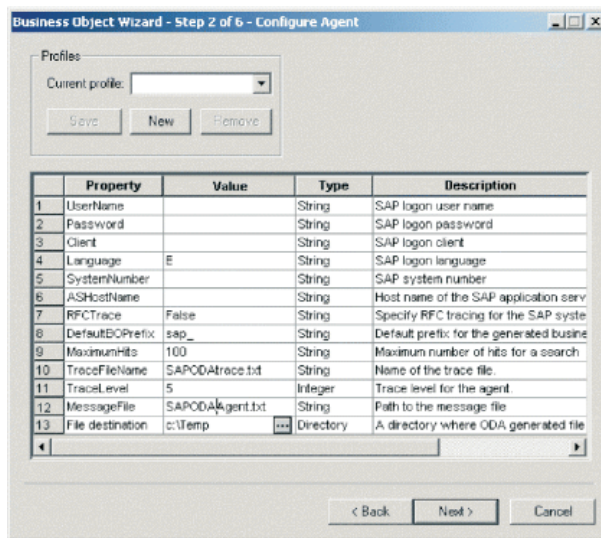

Figure 39. Configuring agent properties
The first time Business Object Designer Express communicates with SAPODA, it prompts you to enter a set of initialization properties as shown in Figure 39 on
The prefix is text prepended to the name of the business object to make it unique. If you are satisfied with the value you entered for the DefaultBOPrefix property in the Configure Agent window (Figure 39 on page 268), you do not need to change the value here.
- Prefix —If you are satisfied with the value you entered for the DefaultBOPrefix property in the Configure Agent window (Figure 39 on page 268), you do not need to change the value here.